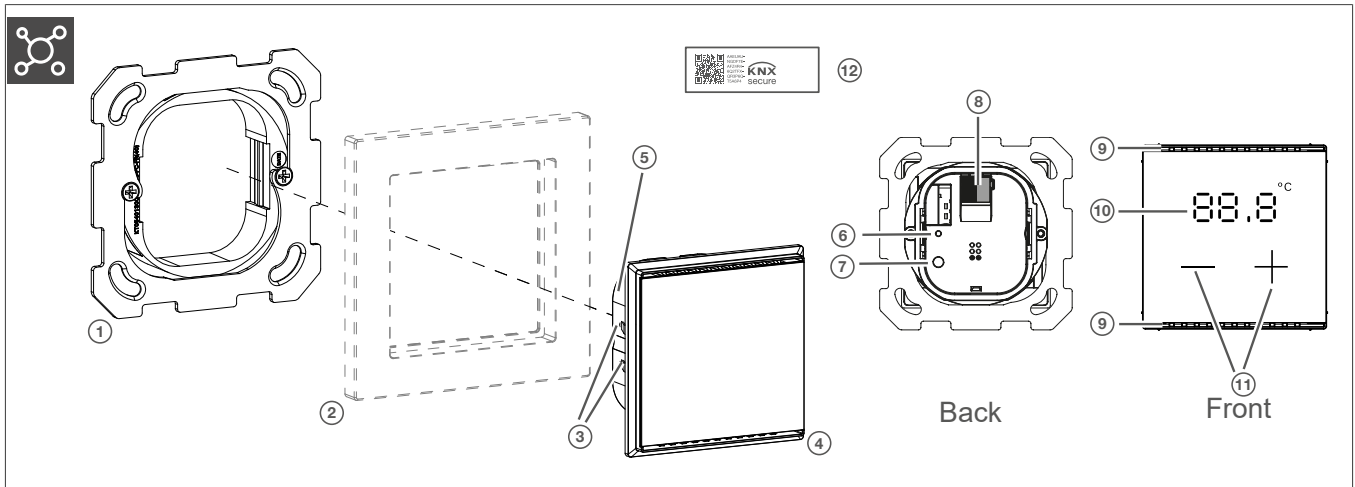

Fig. 2: Design and layout of the device
- | Press the programming button (Fig. 2/7: Design and layout of the device).
- The programming LED (Fig. 2/6: Design and layout of the device) lights up.